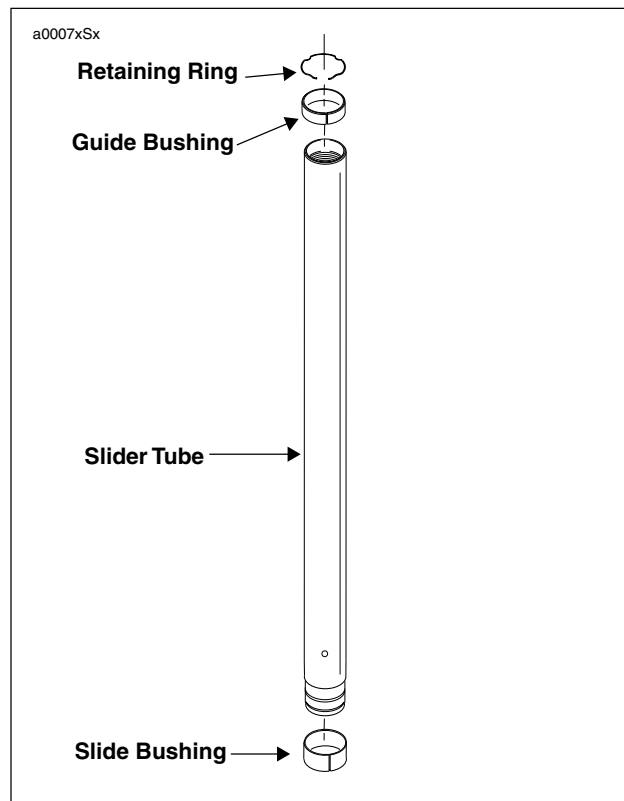

Figure 2-68. Slider tube Components
- See Figure 2-68. Check the slider tube for score marks, scratches and excessive or abnormal wear. Replace if worn or damaged.